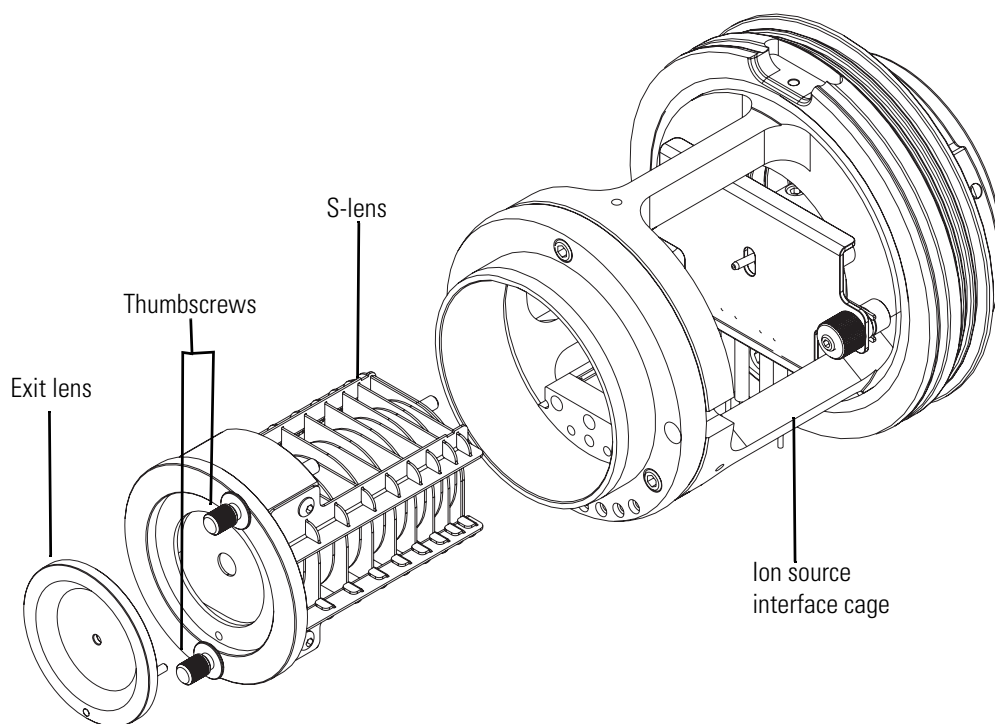

Figure 8-31. Exit lens and S-lens separated from the ion source interface cage
3. Loosen and extend the two thumbscrews that secure the S-lens to the ion source interface cage and the exit lens to the S-lens (Figure 8-31).
2. Slide the S-lens into the ion source interface cage and align the thumbscrews with the screw holes (Figure 8-31 on page 8-46).
2. Slide the ion funnel into the ion source interface cage and align the thumbscrews with the screw holes (Figure 8-31 on page 8-46).